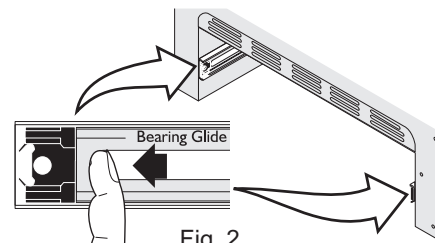

Fig. 2
1. **Pull the bearing glides to the front** of the chassis glide (See Fig. 2).